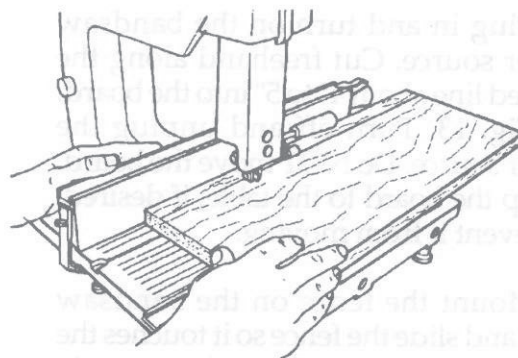

Fig. 19
18. Plug in and turn on the bandsaw power source and finish the cut, as demonstrated in Fig. 19. Turn off and unplug the power source. The cut should finish up exactly on the line, or to the side of the line in which the cut was started freehand.